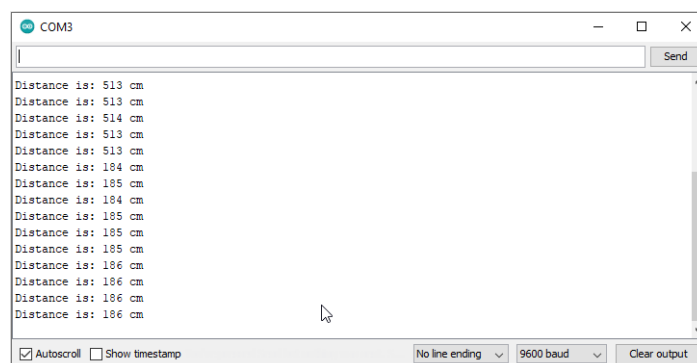

Figure 10.2: Distance on Serial Monitor
1. Go to the GitLab repository and copy the `bleSensor.ino` code. 2. In your Arduino IDE, create a new sketch and **paste** the code. 3. **Verify** and **Upload** to your Arduino. 4. Open the Arduino Serial Monitor to see distance data printed (Figure 10.2).